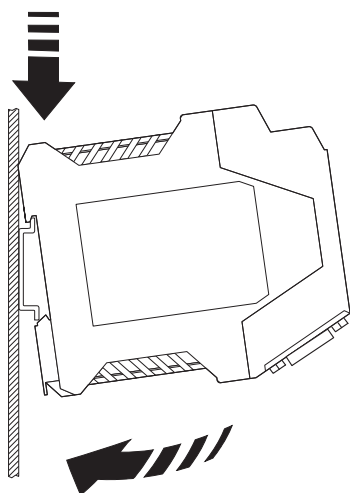

Figure 2-1 Mounting
- Mount the modem on a 35 mm (1.378 in.) EN DIN rail (see Figure 2-1).